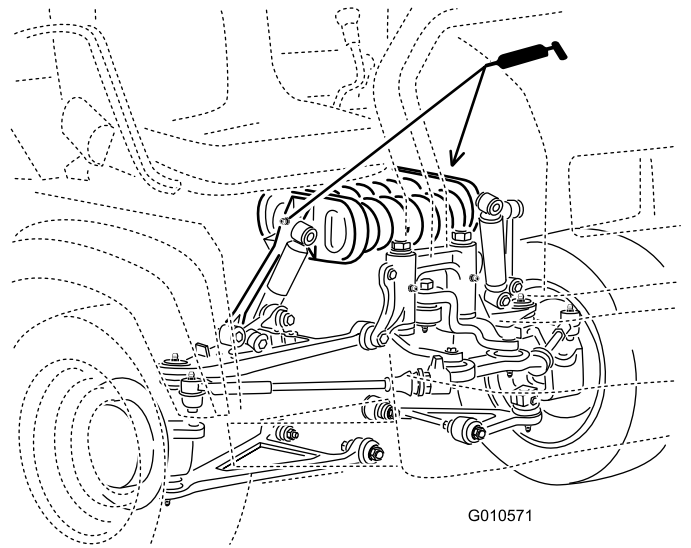

Figure 42
- Tour de ressort (2) (Figure 42)